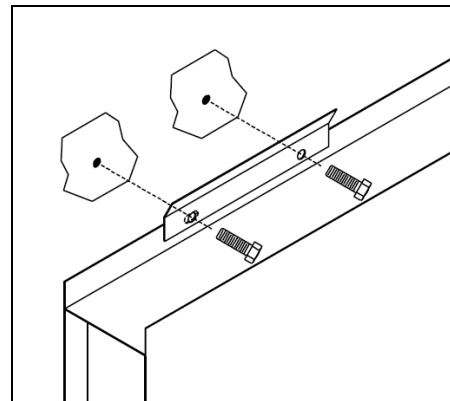

Figure 7: Wall Mounting with Bracket
3. Two mounting brackets must be used inside the top scoreboard channel as shown in **Figure 7**.